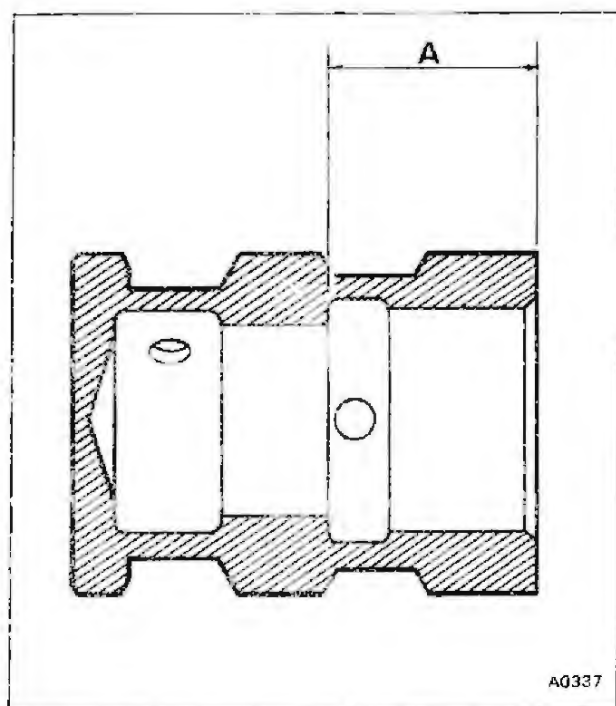

Fig. 1 Reverse boost valve bushing
- 3 Measure the depth of the inside diameter of the reverse boost valve bushing, from the open end of the bushing, to the first internal land (see fig. 1).